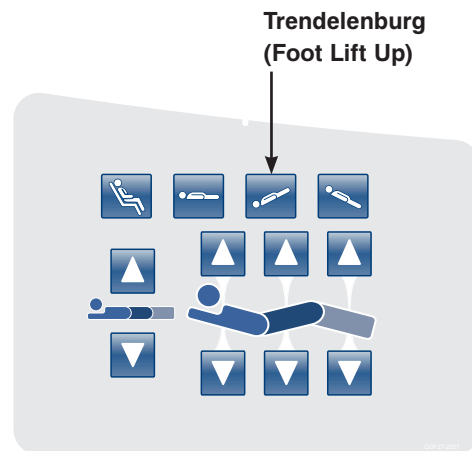

Figure 14: Head Siderail Control Panel
12. Place the bed at +12 degrees Trendelenburg by pressing the **Trendelenburg (Foot Lift Up)** button as shown in Figure 14. Verify +12 degrees +/- 0.1 with the inclinometer you previously placed on the litter frame in step 9.